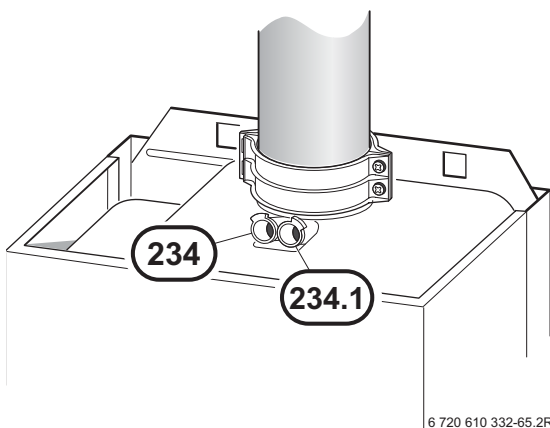

Fig. 44
- ▶ Remove sealing plug from combustion air testing point (234.1, fig. 44).
- ▶ Remove sealing plug from flue gas testing point (234, Fig. 44).